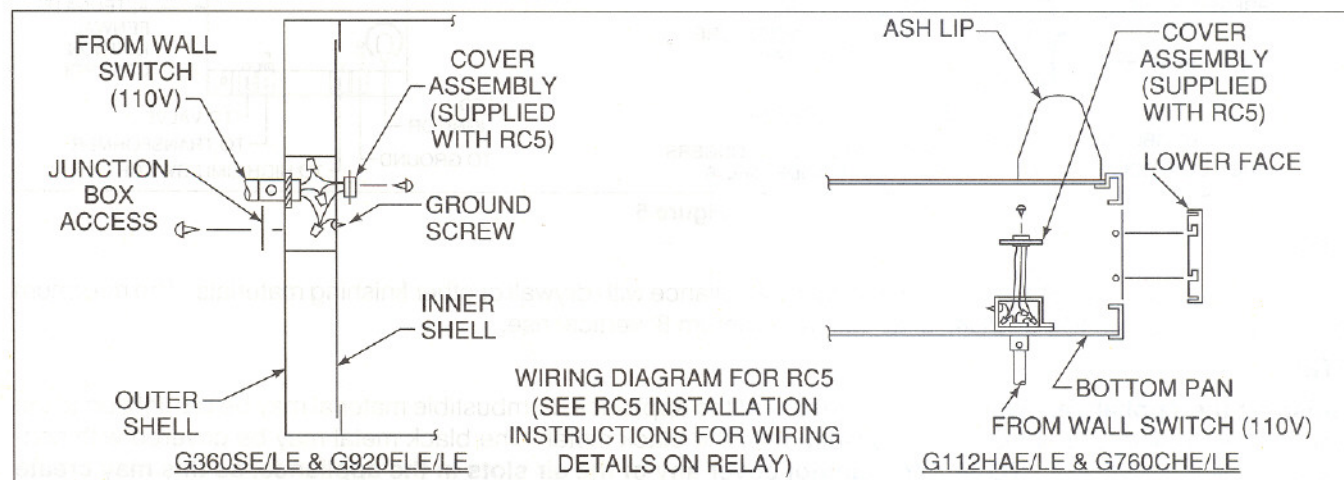
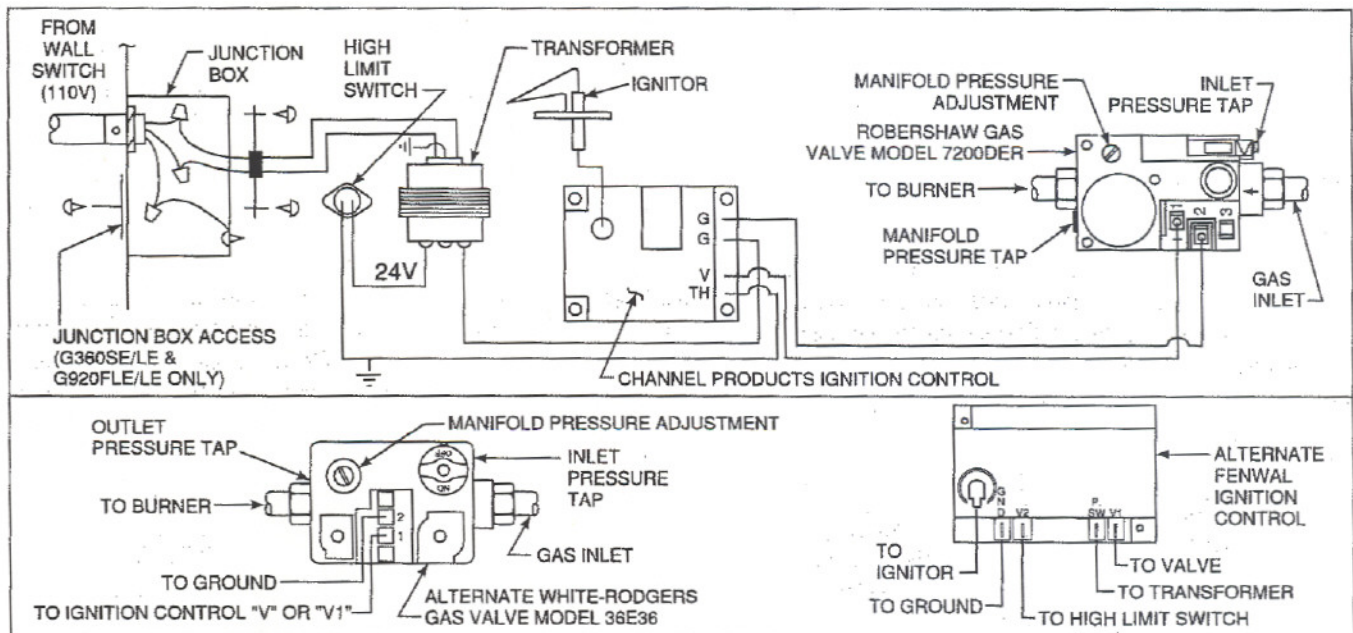

Figure 3
Figure 5
If an optional RC5 Remote Control Kit is to be used, wiring should be done at this time. A wiring diagram is shown in Figure 3 and is also provided with this accessory. Supply electrical wiring (110V) to the side of the appliance. Connect the wall switch in line to operate the appliance. The appliance must be electrically wired and grounded in accordance with local codes or, in the absence of local codes, with National Electric Code ANSI/NFPA 70-latest edition or, in Canada, the current CSA C22.1 Canadian Electrical Code. The appliance wiring diagram is shown in Figure 5 (page 4).
B. No ground.	Check that wiring is grounded as shown in Figure 5.